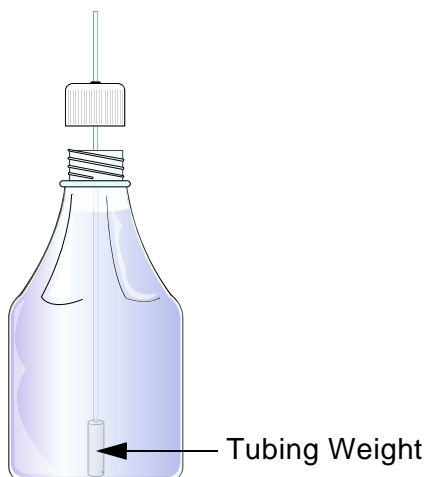

Figure B-4. Tubing Weight in Reservoir
8. Cap the bottle and adjust the length of tubing until the weight touches the bottom surface of the reservoir (see Figure B-4).
7. Cap the bottle and adjust the length of tubing until the weight touches the bottom surface of the reservoir (see Figure B-4).